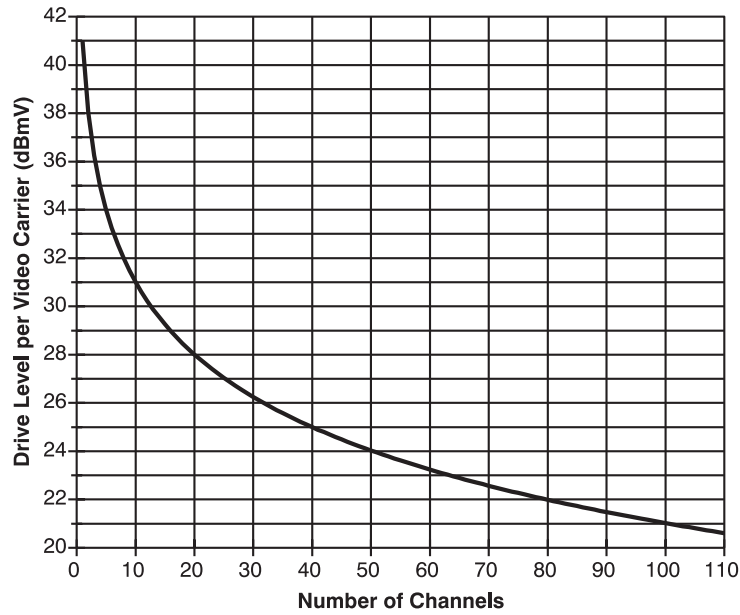

Figure 4 Transmitter Level per Channel vs. Number of Channels
- 6) The recommended RF input level is shown in Figures 4 and 5.